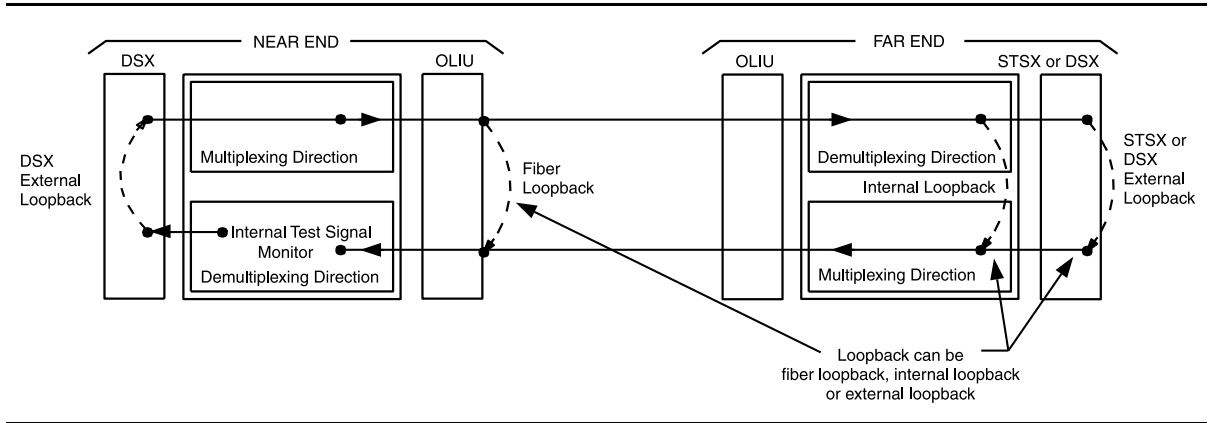

Figure 2 – Transmission Test of DS1 Signal in DEMUX Direction
9. See Figure 2. At the near-end DSX-1 cross-connection associated with the DDM-2000 being tested, connect a patch cord from the **OUT** jack to the **IN** jack for the DS1 channel to be tested.